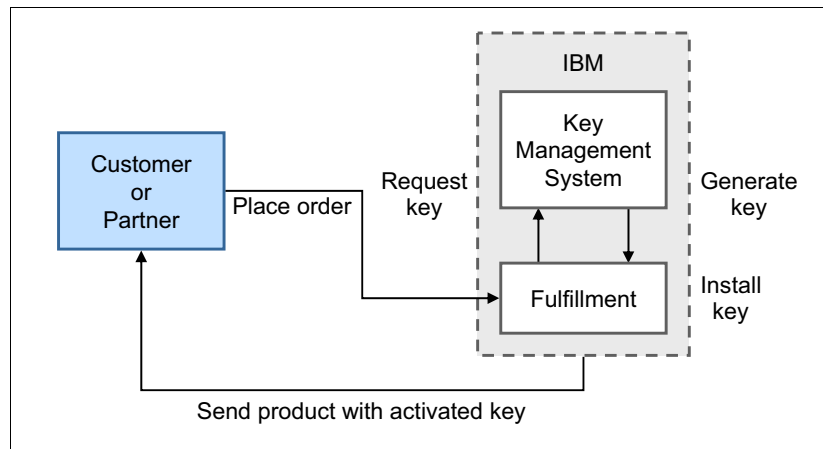

Figure 5-2 Features on Demand field order option
1. An FoD option ordered with server and installed during manufacturing (Figure 5-2).